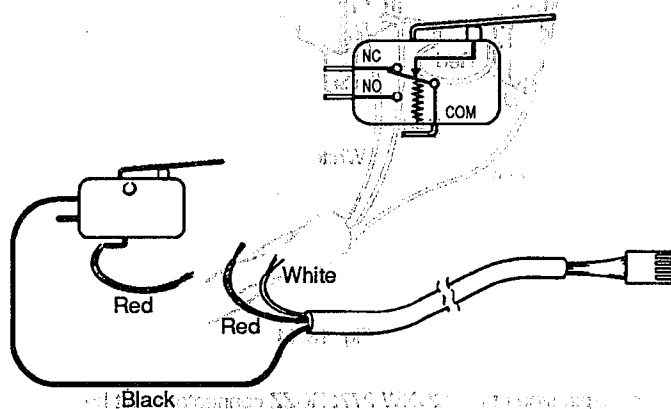

Fig. 13-21
- 7) Solder the leads to the microswitch as shown in the Fig. 13-21.